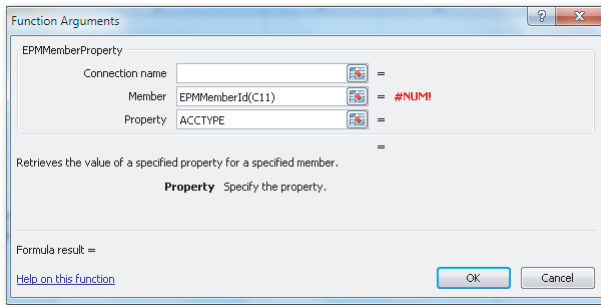

Figure 5.17 Define Local Members—Part B
3. In the FUNCTIONS ARGUMENTS dialog box, select the connection, dimension member, and property value to display (Figure 5.17). When a connection is not specified for the connection name parameter, the active connection is taken as default. The dimension member is selected for the member parameter. The dimension property that is required to be displayed is specified for the property parameter. For this example, enter "ACCTYPE" for the PROPERTY. After specifying the selections, click on OK.